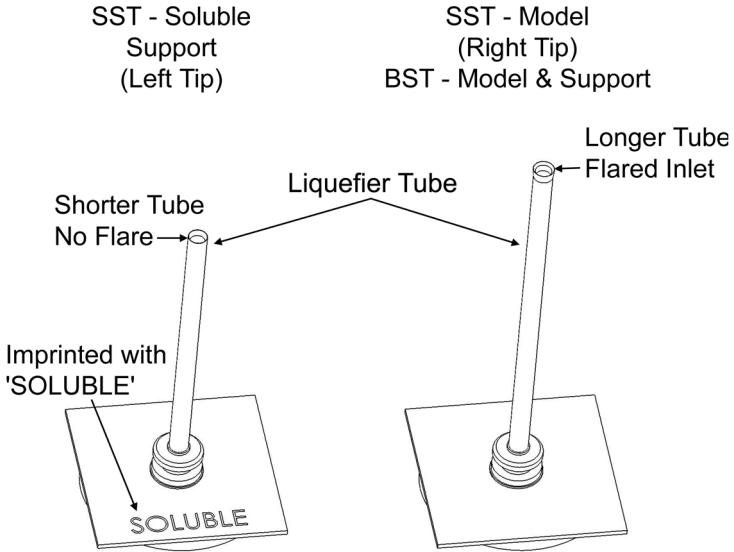

Figure 23: Identifying Tips
- A. For a Dimension BST, the SUPPORT tip and MODEL tip are interchangeable. Both tips are the same as the MODEL tip shown in Figure 23 on page 55. (The tips come in a Red capped container).
- B. For a Dimension SST, you must identify the correct replacement tip. The SST uses two tip types. You must make sure a SUPPORT tip is used on the LEFT side of the head assembly. A MODEL tip must be used on the RIGHT side of the head assembly (See Figure 23 on page 55). The Model tip comes in a Red capped container. The Support tip comes in a Black capped container.